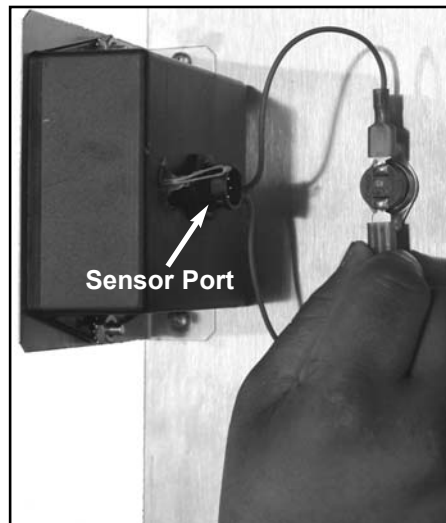

Figure 5
5. Connect Sensor Wires to Klixon, and Heat/Humidity Sensor Cable Plug into Sensor Port. See **Figure 5**. (*Note: Refer to page 7 and Figure 7 for Heat/Humidity Sensor Cable Plug)